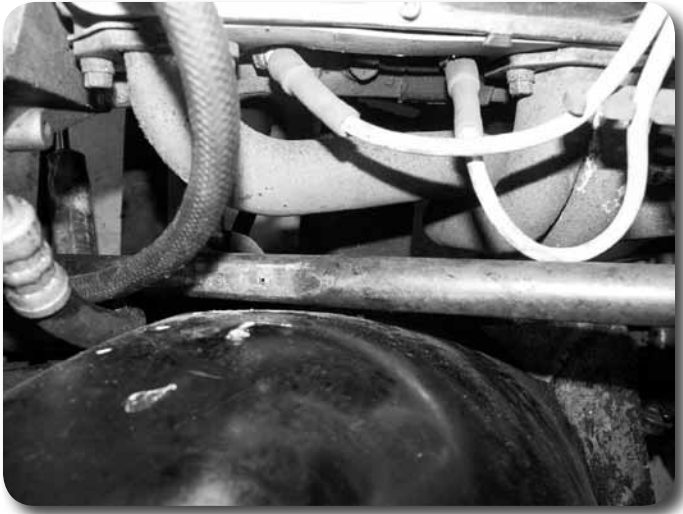

Figure 6
24. Install 1/8" rolled pin through holes just drilled – Fig 6.